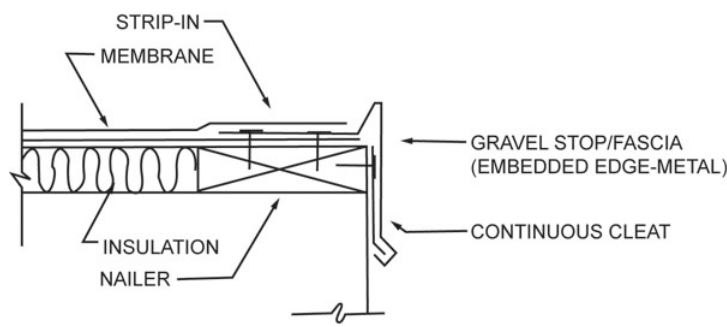

Figure 1-2. Roof edging.
- **Gravel stop**—(fascia or gravel guard) flashing that is used around the entire roof perimeter. It serves two purposes—it provides a continuous finished edge by sealing the terminated edges of the membrane and prevents loose aggregate from washing off the roof. (fig. 1-2).
Gravel stops keep aggregate from rolling off the roof, act as a termination point for the membrane, and deflect rainwater. They are made from a rigid material, either premolded plastic or metal. All end laps, expansion joints, and membrane connections must be watertight (fig. 1-2).